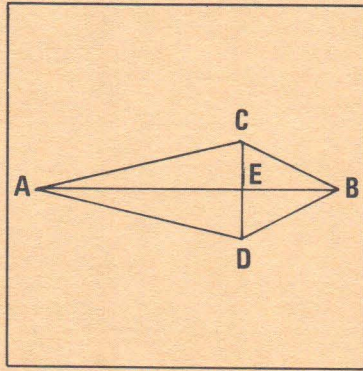
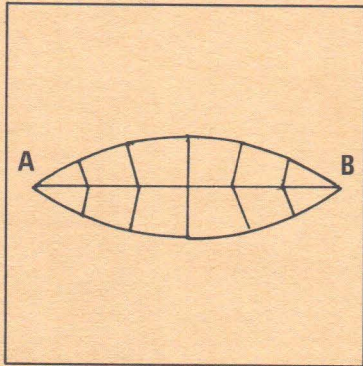

Figure 19
Figure 20
Steps (Fig. 19)
2. Use a large true bias patch, pinning it on right side of garment with right sides of fabric together. Patch should be four times line CD and 2 inches longer than line AB in Fig. 19.
8. Work the bias line of patch up to line AB (Fig. 19) as one lip. Pin. Repeat on other side. Press folded edges AB with iron, being careful not to leave pin marks on fabric.
9. Use a straight strip of material or a tape for staying bias patch. A selvage from thin material is excellent. Strip is a fraction wider than from DE and 1 inch longer than AB (see Fig. 19). Cut 2 strips for each buttonhole.
The shape in Fig. 20 is treated exactly as in Fig. 19 except in slashing just after step 3. Follow each step from 5.